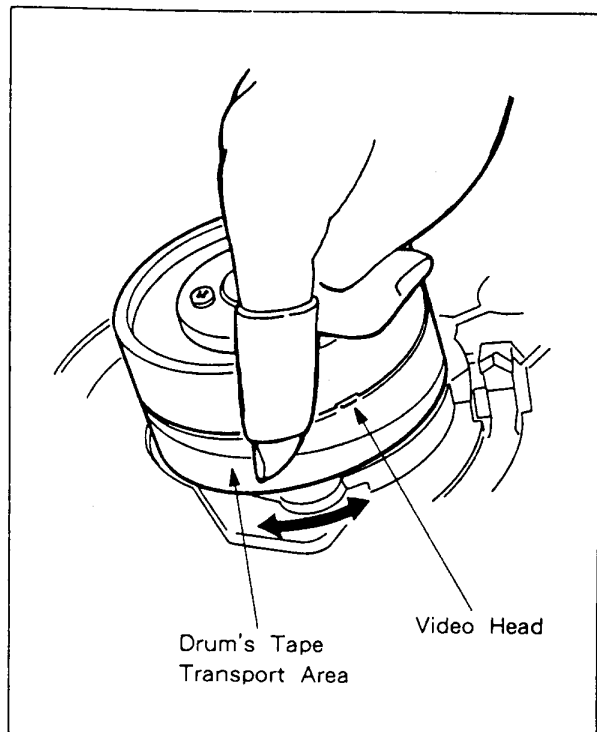

Fig. 4-1-1.
① Drum (COMPL CYLINDER) and Video Heads (See Fig. 4-1-1.)